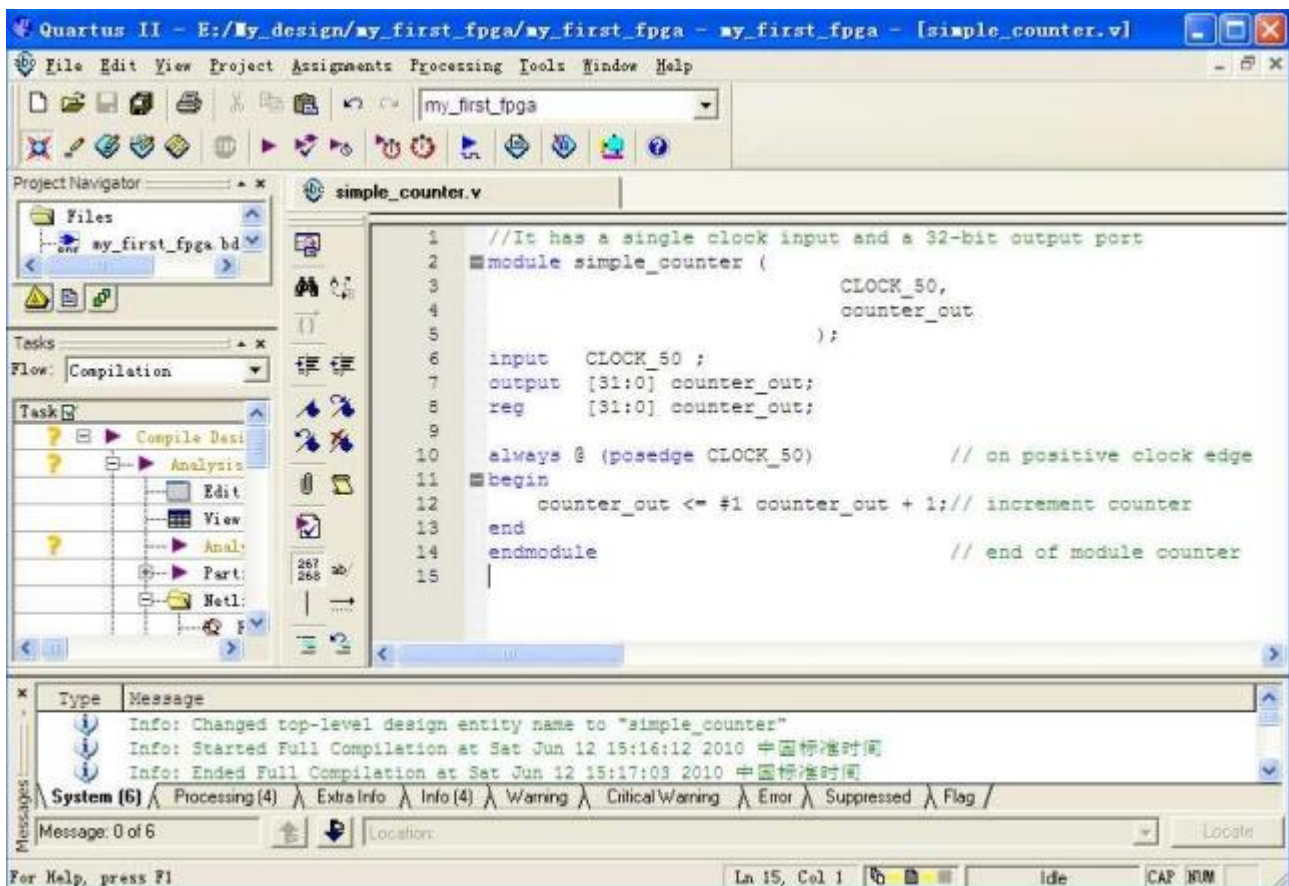

Figure 3-4 The Verilog File of simple_counter.v
8. Type the following Verilog HDL code into the blank simple_counter.v file (see Figure 3-4 The Verilog File of simple_counter.v).